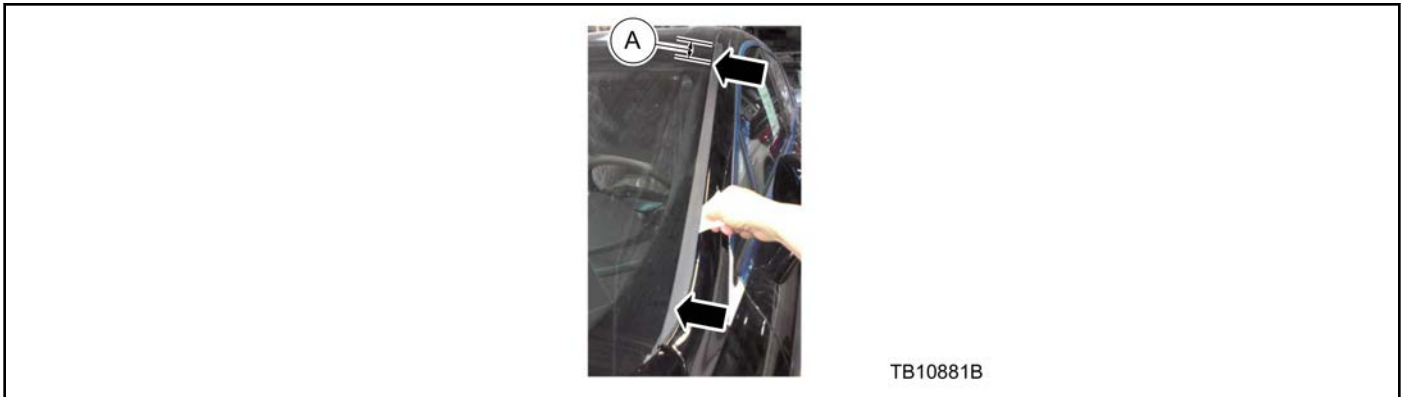

Figure 1 - Article 16-0088
3. On the passenger and driver side of the vehicle, measure approximately 25 mm (1") dimension A, and insert the business card between the windshield moulding and the metal A-pillar at the three points. At any point, can the business card be inserted more than 10 mm (13/32")? (Figure 1)